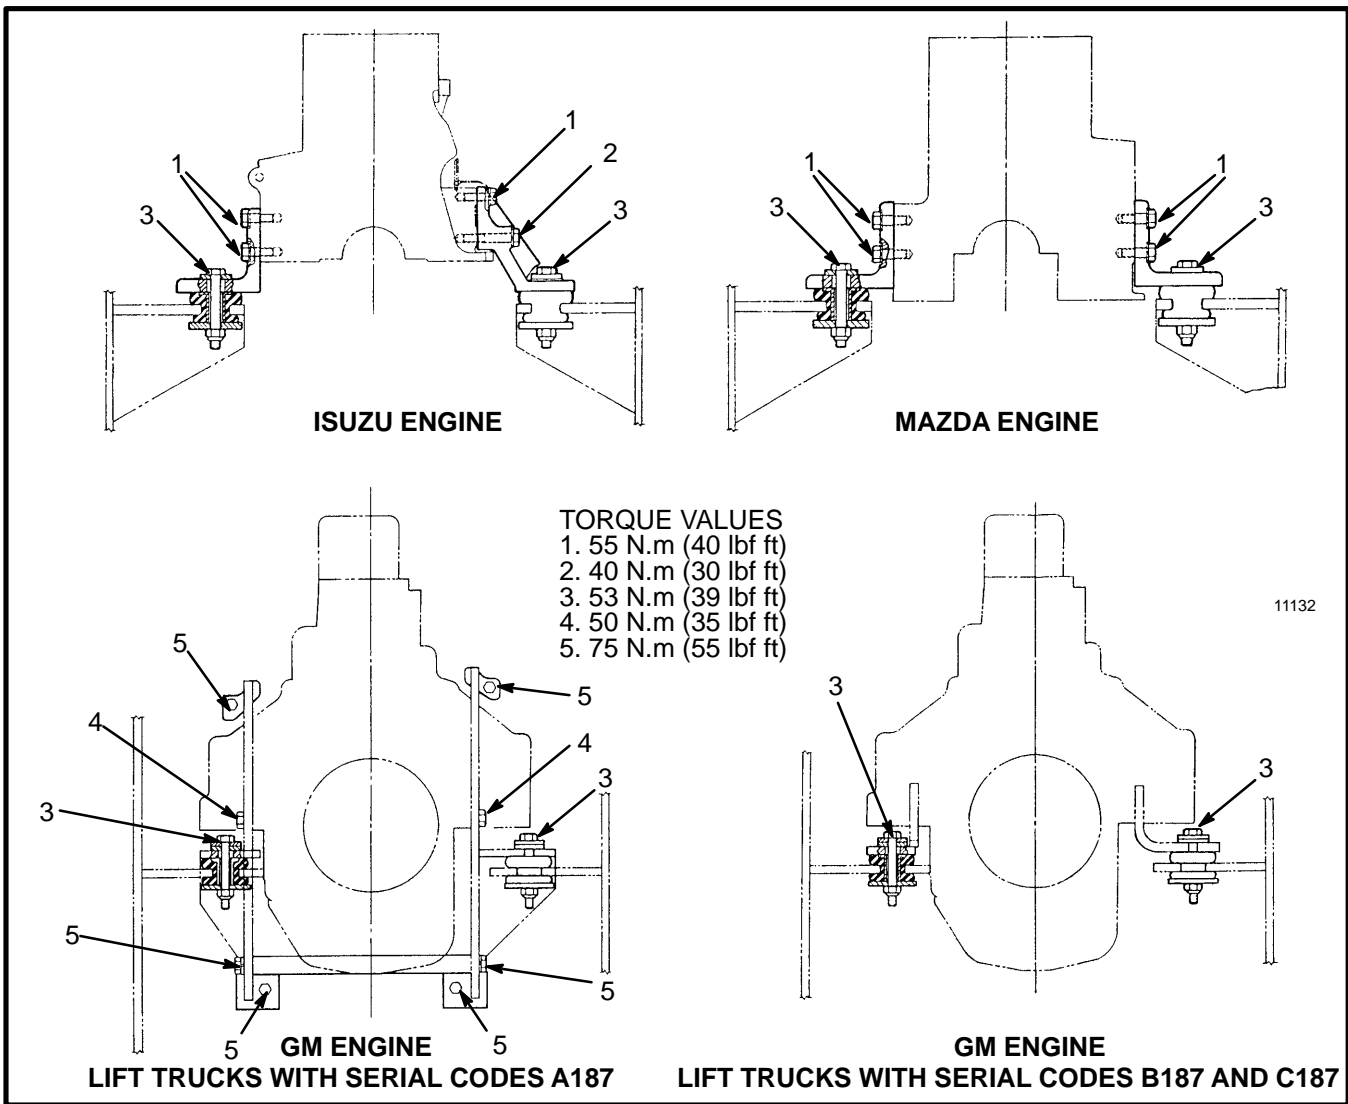

FIGURE 7. ENGINE MOUNTS
7. Install the bolts, washers and nuts to connect the engine mounts at the frame. See FIGURE 7. Install the clamps and hoses on the bolt for the left-hand engine mount.